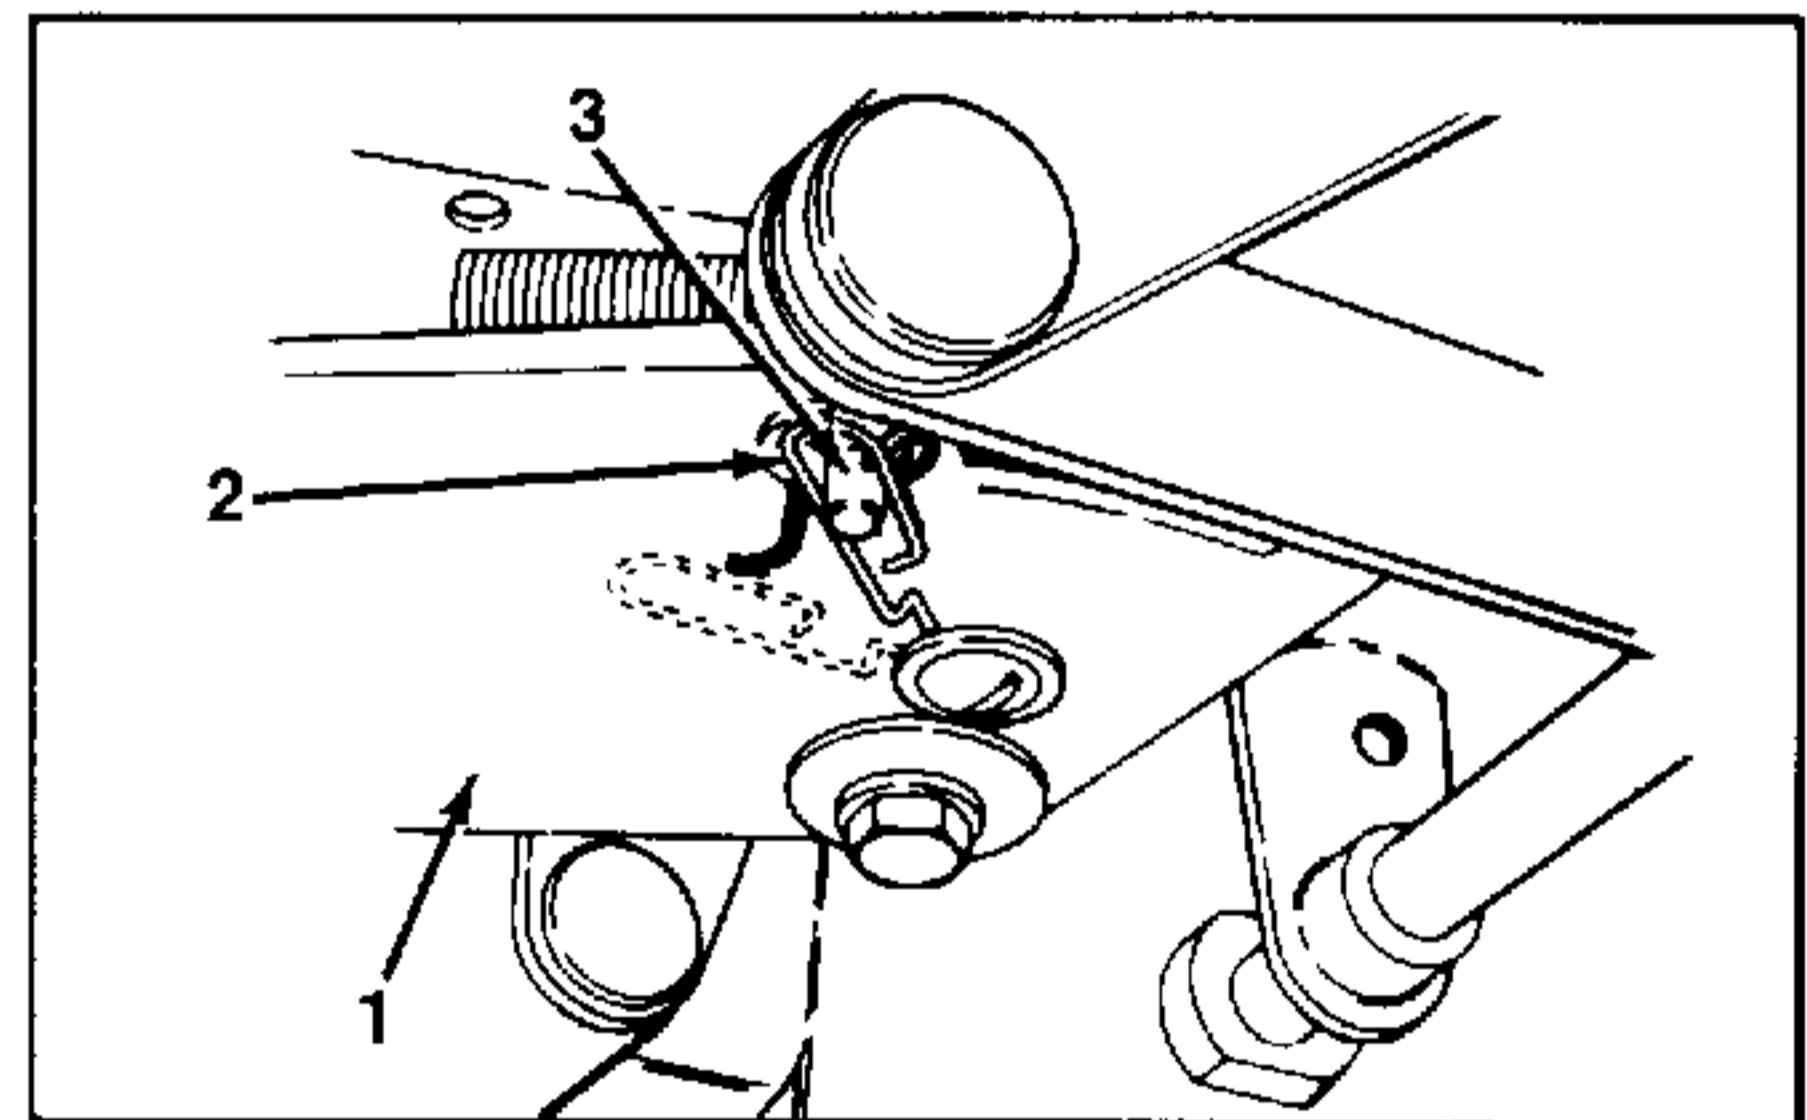

FIGURE 18.
- While working from the left side of the tractor, locate the clutch rod and retaining spring on the manual clutch bracket, under the tractor. Refer to figure 18.
- Pull the retaining spring off the clutch rod by pulling down and across towards the right side of the tractor. Refer to figure 18.